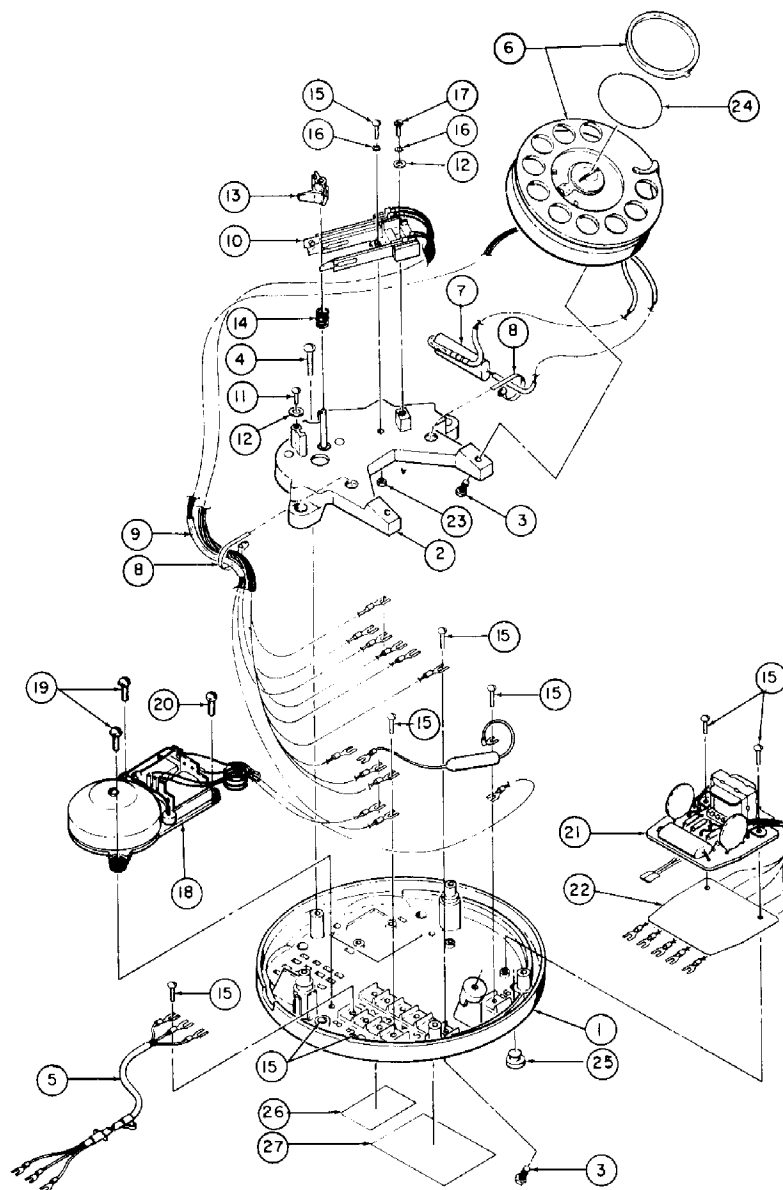

Figure 8. Candlestick Telephone Base.
7.01 To assemble those components that mount on the base, refer to Figure 8 and Table 8. To assemble the housing, transmitter, and earpiece, refer to Figure 7 and Table 7.
7.15 After all the connections have been made, position the platform (Figure 8, 2) over the base, and secure with screw (4) from the top and screw (3) from the bottom of the base.